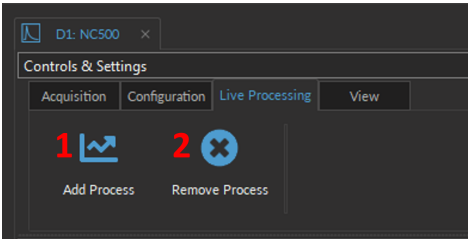

Figure 11.69: Live Processing Tab
1. The **Add Process** button (Fig. 11.69, 1) creates preset configurations where a live computation (such as filter, decimation, and/or demodulation) is applied in real-time as the data is collected. Some preset options create both input and output channels required for the process (e.g. **Lock-In**, **Interleaved**, and **Ephys**). Each preset configuration is treated in separate sections, as in Table 11.3.
2. The **Remove Process** button (Fig. 11.69, 2) deletes the selected preset. Only one preset option (and all its dependencies) can be deleted at a time. This option is permanent and cannot be recovered unless the settings were already saved using the **Save Configuration** button (Fig. 11.23, 4).